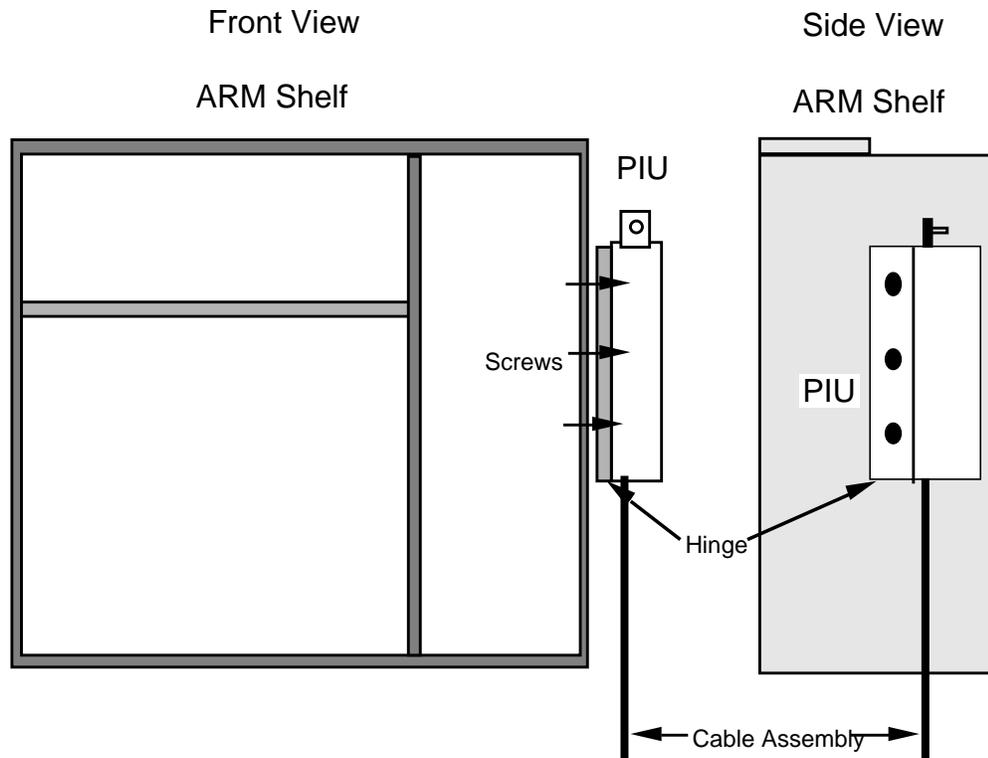

Figure 2-6. PIU Mounting Details
- Step 2:* Refer to Figure 2-6 and mount the PIU to the ARM shelf as follows: